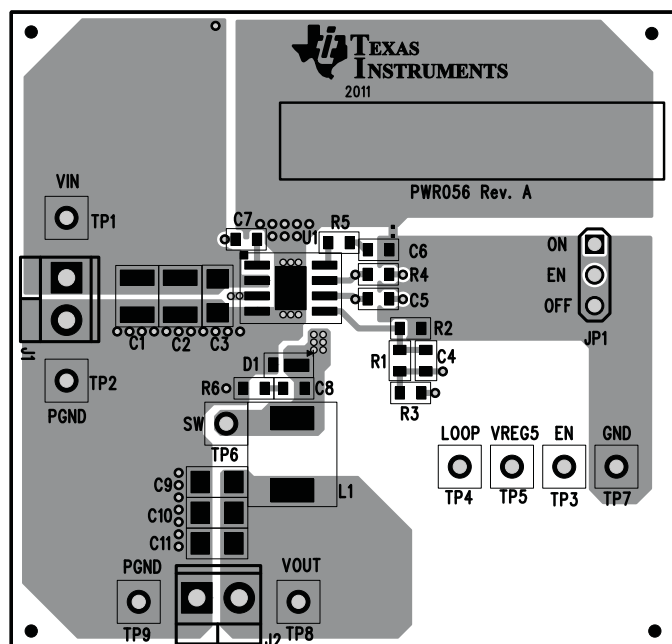
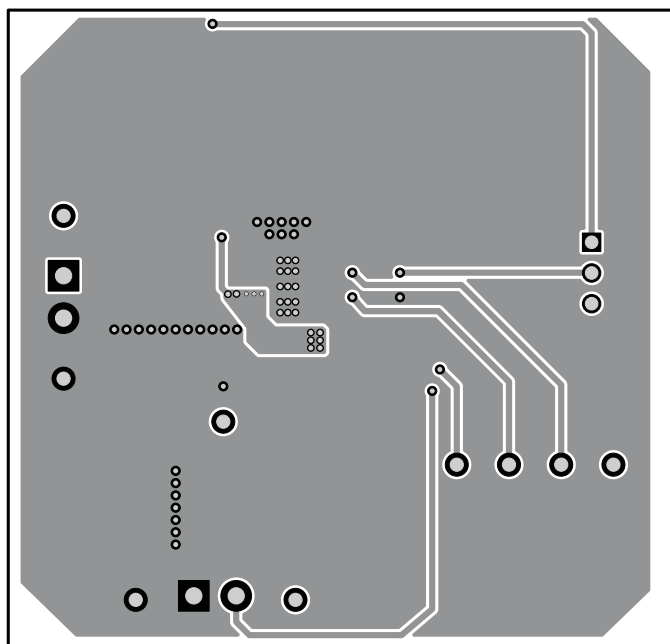

Figure 12. Top Assembly
Figure 16. Bottom Layer
The board layout for the TPS54329EVM-056 is shown in Figure 12 through Figure 16. The top layer contains the main power traces for VIN, VO, and ground. Also on the top layer are connections for the pins of the TPS54329 and a large area filled with ground. Many of the signal traces also are located on the top side. The input decoupling capacitors are located as close to the IC as possible. The input and output connectors, test points, and all of the components are located on the top side. An analog ground (GND) area is provided on the top side. Analog ground (GND) and power ground (PGND) are connected at a single point on the top layer near C6. The two internal layers are completely dedicated to power ground planes. The bottom layer is primarily power ground. A copper pour area on the bottom layer is used to connect the switching node (SW) to the output inductor and the boost capacitor. Traces also connect enable control jumper, EN, VREG5, and LOOP test points, and the feedback trace from VOUT to the voltage setpoint divider network.